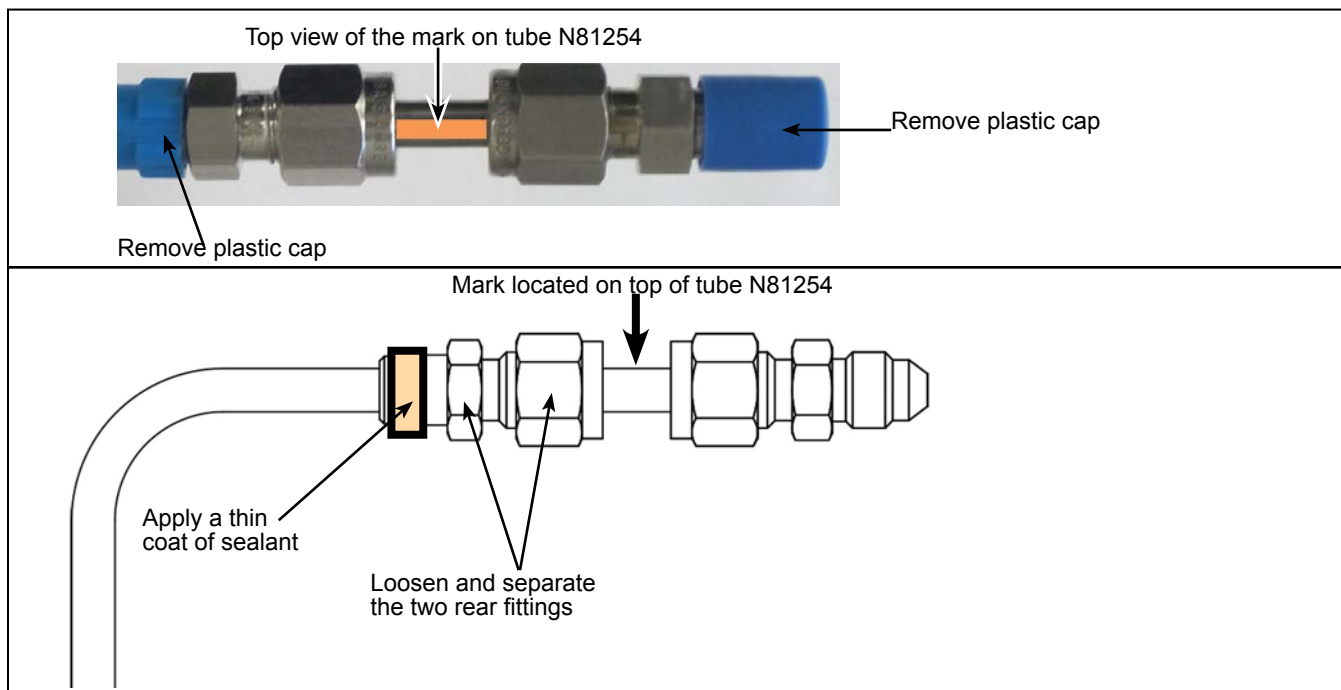

Figure 3 - Inspection and Preparation of the Rigid Supply Tube N81254
- 1.3. Inspect if the top position of rigid supply tube N81254 is marked for alignment during installation. Mark using an indelible marker the tube if no mark is present on top of the tube. See Figure 3 for the position of the mark.
- 1.4. Remove the plastic protection on the fitting of the rigid supply tube. See Figure 3.
- 1.5. Loosen and separate the two rear fittings and apply a thin coat of sealant on the fitting indicated in Figure 3.